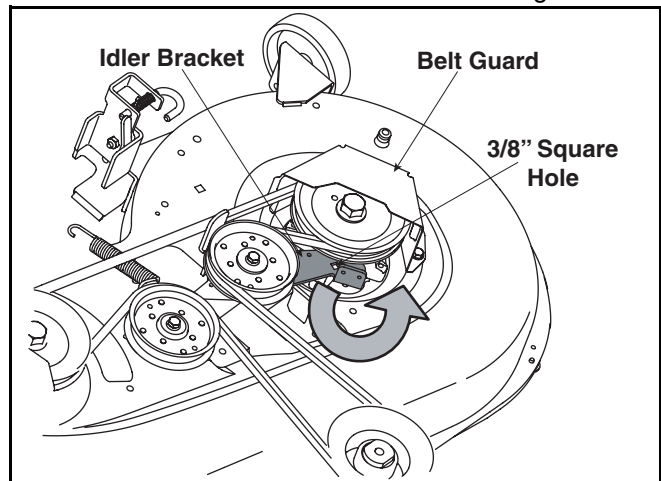

Figure 18
- Insert a 3/8"-drive ratchet wrench (set to *loosen*) into the square hole found in the idler bracket on the left side of the deck's surface. See Figure 18.